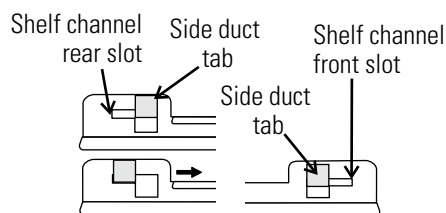

Figure 1-11. Slot and Tab
3. Install the shelf channels by placing the channel's rear slot over the appropriate rear tab on the side duct. Pull the shelf channel forward and engage the channel's front slot into the side duct's appropriate forward tab. Refer to Figure 1-11.